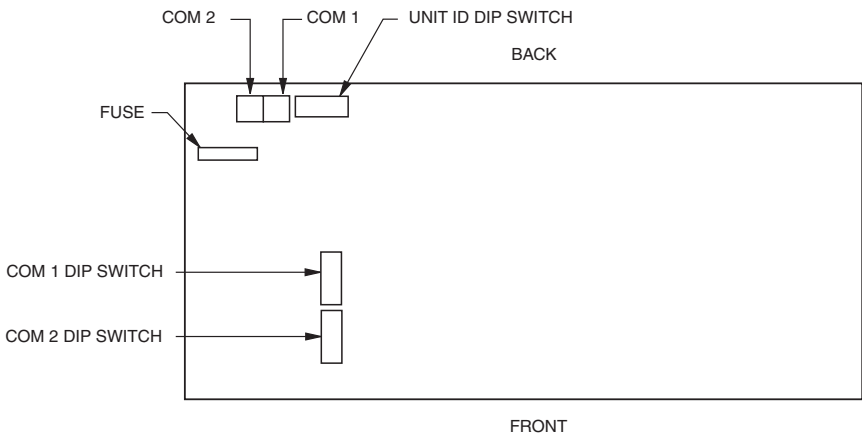

Figure 2. Location of DIP Switches
2. Refer to Figure 2 for the location of the switches for COM 1 and COM 2. Refer to Table A for the switch settings.